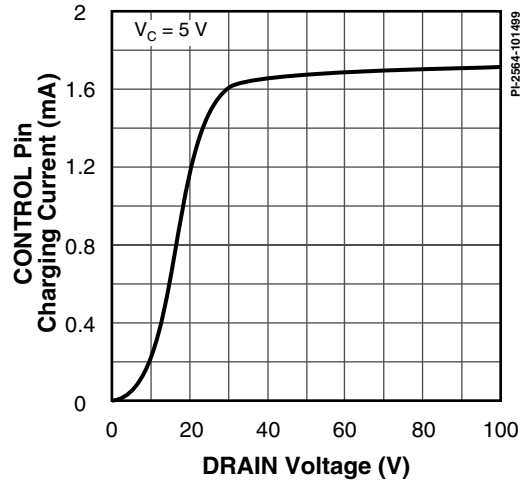

Figure 68.  $I_c$  vs. DRAIN Voltage.
- E. It is possible to start up and operate *TOPSwitch-GX* at DRAIN voltages well below 36 V. However, the CONTROL pin charging current is reduced, which affects start-up time, auto-restart frequency, and auto-restart duty cycle. Refer to Figure 68, the characteristic graph on CONTROL pin charge current ( $I_C$ ) vs. DRAIN voltage for low voltage operation characteristics.